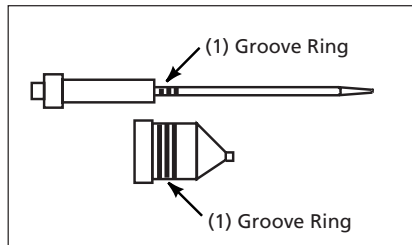

Figure 2 - Thin Material Needle And Nozzle Kit
2. The thin material needle and nozzle have a single groove ring as shown in Figure 2 below.
6. Install the appropriate needle/nozzle assembly selected for the material to be sprayed (Fig. 2, 3 & 4).